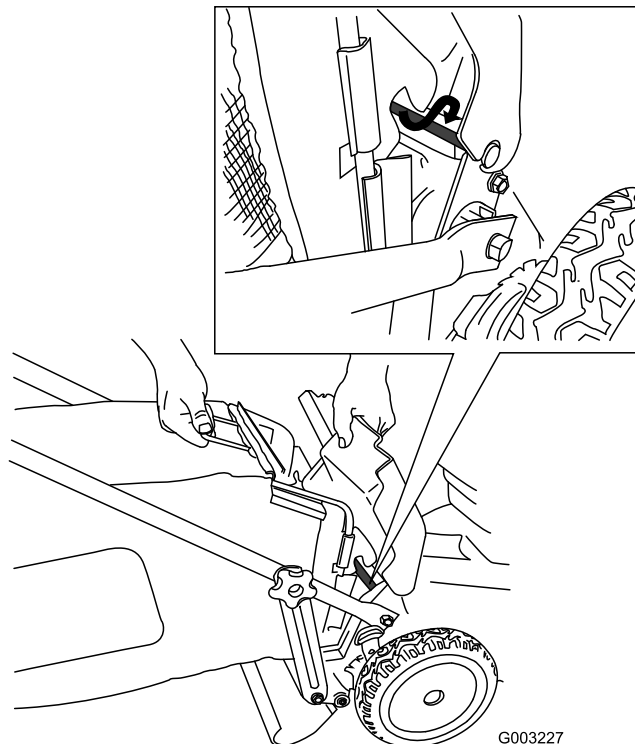

Figure 26
4. Install the bag onto the door rod (Figure 26).